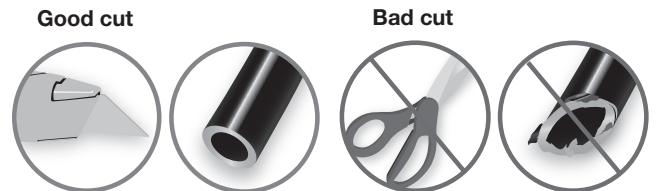

Fig. 12
2. If installing a single-path air line, choose a location for the tee fitting (J) on the wheel well or rear bumper. Determine and cut adequate length of air line (C) to reach to the tee from left and right side air springs. Make clean, square cuts with a razor blade or hose cutter (Fig. 12). Do not use scissors or wire cutters.